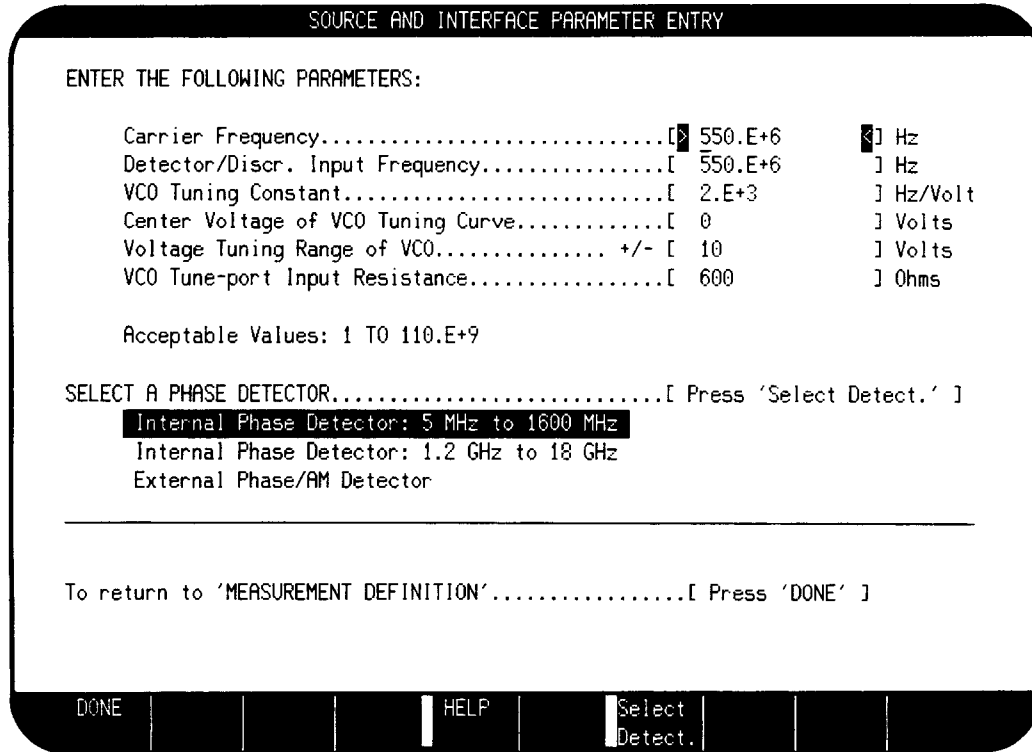

Figure 3-8. Source and Interface Parameter Entry Menu
- On the HP 3048A press the **Instr. Params** softkey to obtain the Source and Interface Parameter Entry menu. Set the parameters and phase detector as shown in figure 3-8. When done, press the **DONE** softkey.